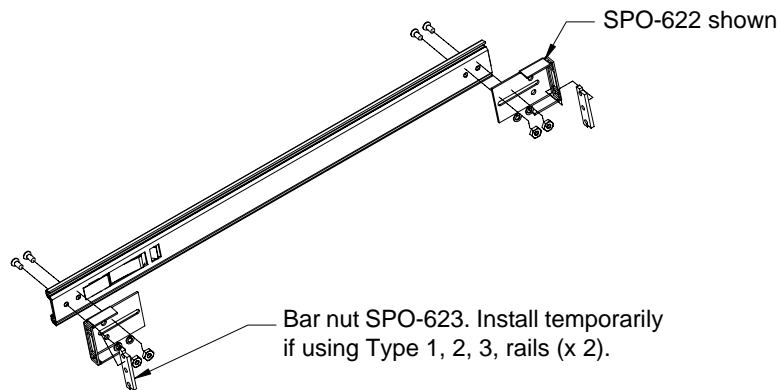

Figure 8 Attaching Front And Rear Bracket To Cabinet Section
5. Attach front and rear brackets to cabinet section (see Figure 8) using the following materials supplied with the slides: